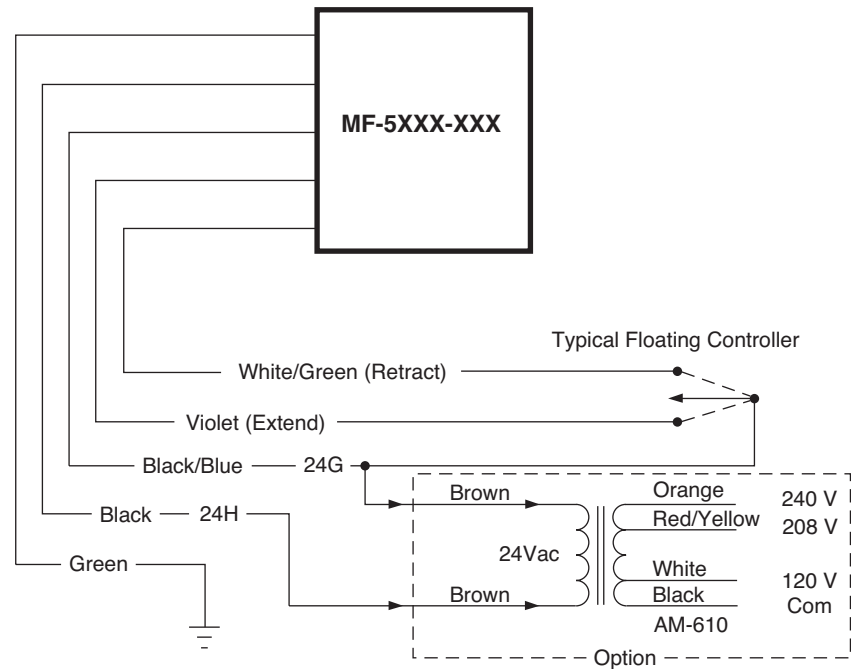
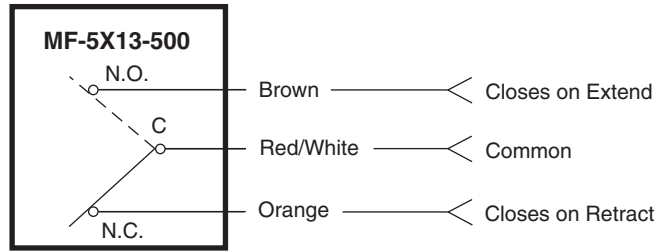

Figure-1 Basic Wiring Diagram.
Figure-3 Auxiliary Switch for MF-5X13-500 Models.
SPDT Floating Control Output or 2 SPST Control Contacts, Minimum rating of 1 A @ 24 Vac, inductive load. Refer to Figure-1.
Figure-1 illustrates a typical wiring diagram using an MF-5XXX-XXX and a transformer kit (AM-610). Two single-pole, single-throw contacts can also be used to control the actuator position.
The auxiliary (aux) switch can be adjusted by turning the aux. switch screw to change the switch action through the stroke of the unit (refer to Figure-3). The factory setting has the N.C. contact made at the retracted position.
3. Make the required connections. Refer to Figure-1 for a wiring diagram of a typical application. Refer to Figure-2 for a wiring diagram of the 18K feedback potentiometer for the MF-55X3 model series actuators. Refer to Figure-3 for a wiring diagram of the auxiliary switch for MF-5X13-500 model actuators.